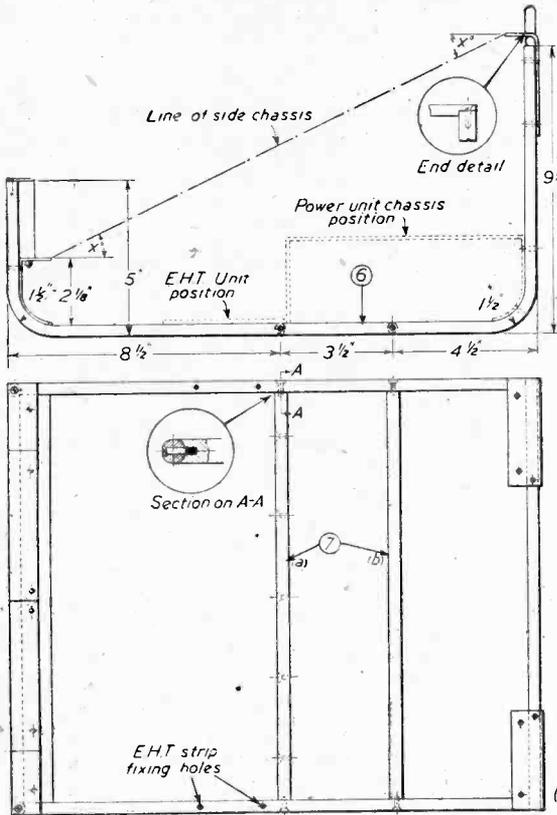

FIG 4 GENERAL FRAMEWORK ASSEMBLY. DETAILS OF THE VARIOUS ITEMS ARE GIVEN IN FIG 6
ends as the inset of Fig. 4 shows, and then fitted in the positions indicated. It is essential that these members are of the same length. Both members are tapped 6 B.A. to a depth of about $\frac{1}{2}$ in., the side members being drilled to clear and countersunk. Every effort should be made to ensure that these drillings are central in all rods, and although this is difficult without a drill press or lathe, care with an ordinary hand brace will produce a good job. The framework when bolted together should stand reasonably square, but slight errors can be corrected later when the other chassis items are fitted.
The front control bracket (item 5) should next be bent as shown in detail in Fig. 6 (a), together with the two curved tube mask supports (items 4) shown at (b). These items are fitted to the framework as indicated in Fig. 4, the $\frac{3}{8}$ in. rods being drilled through 6 B.A. clear for the bolting of the control bracket, and tapped at the ends of the front upright sections 4 B.A. to a depth of about $\frac{1}{2}$ in., for the fixing of the tube supports. These latter curved pieces are also bolted (with countersunk 6 B.A. bolts) to item 5 at the centre butt joint.
The power unit chassis should now be prepared to the details given in Fig. 7, and then drilled and fitted as indicated in Fig. 4. The curved side of the chassis
The rear cross member (item 1) is now prepared. This is made from a 16in. length of $\frac{1}{2}$ in. diameter aluminium or dural rod, and is bent at the mid-point as shown. Again, the exact size of the bend is not critical, it being made merely to clear the tube base-holder when this is fitted. The ends of this rod are then cut to the correct width of 14in., and filed to sit on the top of the two main uprights. Fixing is accomplished with 6 B.A. countersunk screws tapping into the latter rods, as the detail inset of Fig. 4 shows.
the bottom edge of this bracket as possible to avoid fouling the timebase components when finally assembled. Fixing to the rear uprights and the cross member is as indicated in Fig. 4.
Angle x to fit to similar angle shown in side view fig 4